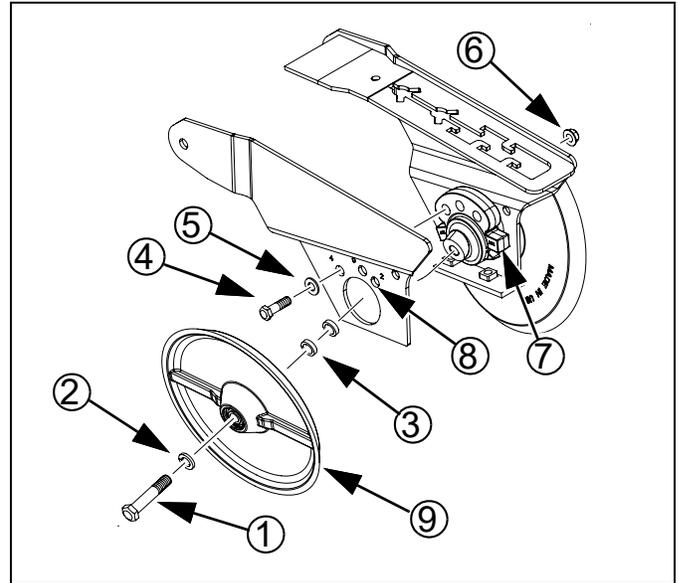

Figure 55
4. Cast Wheel Plow Angle (see Figure 55 on page 45)
Refer to Figure 55